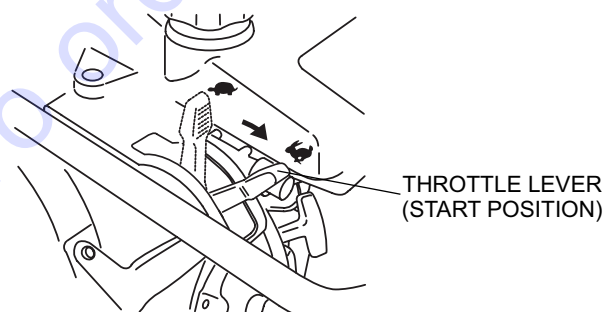

Figure 14. Throttle Lever (Start Position)
1. To start the rammer tamping action, move the throttle lever (Figure 14) **quickly** from **IDLE** (☛) to the **START** (☞) position. **DO NOT** move the throttle lever slowly as this may cause damage to the clutch or spring.